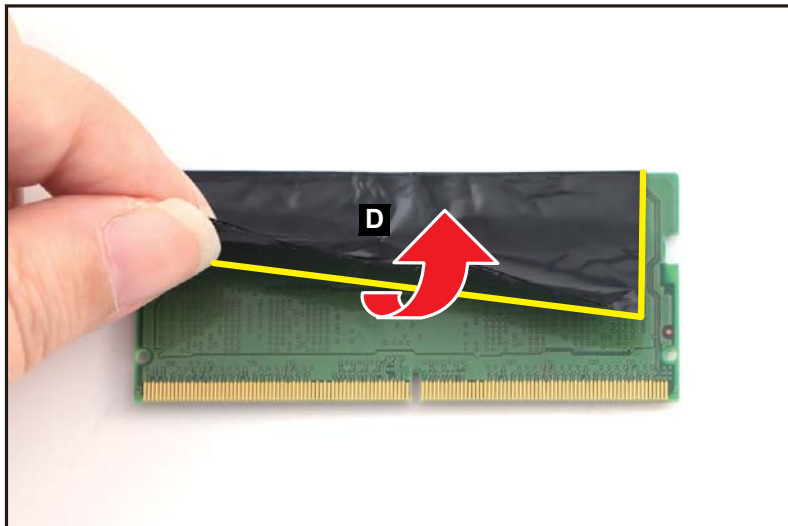

Figure 1-17. DIMM Module Removal
5. Peel off the composite foil with thermal pad (D) from the DIMM module (Figure 1-17).